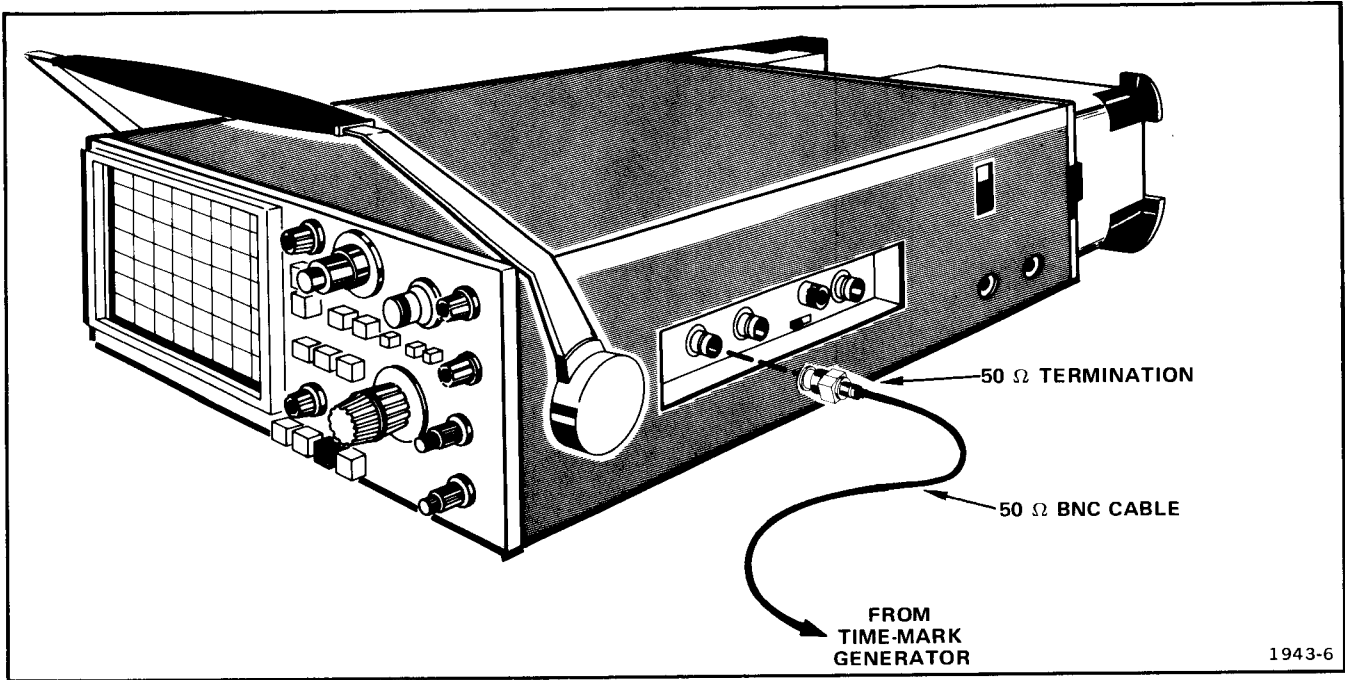

Fig. 5-6. Equipment setup.
- a. Connect test equipment as shown in Fig. 5-6.